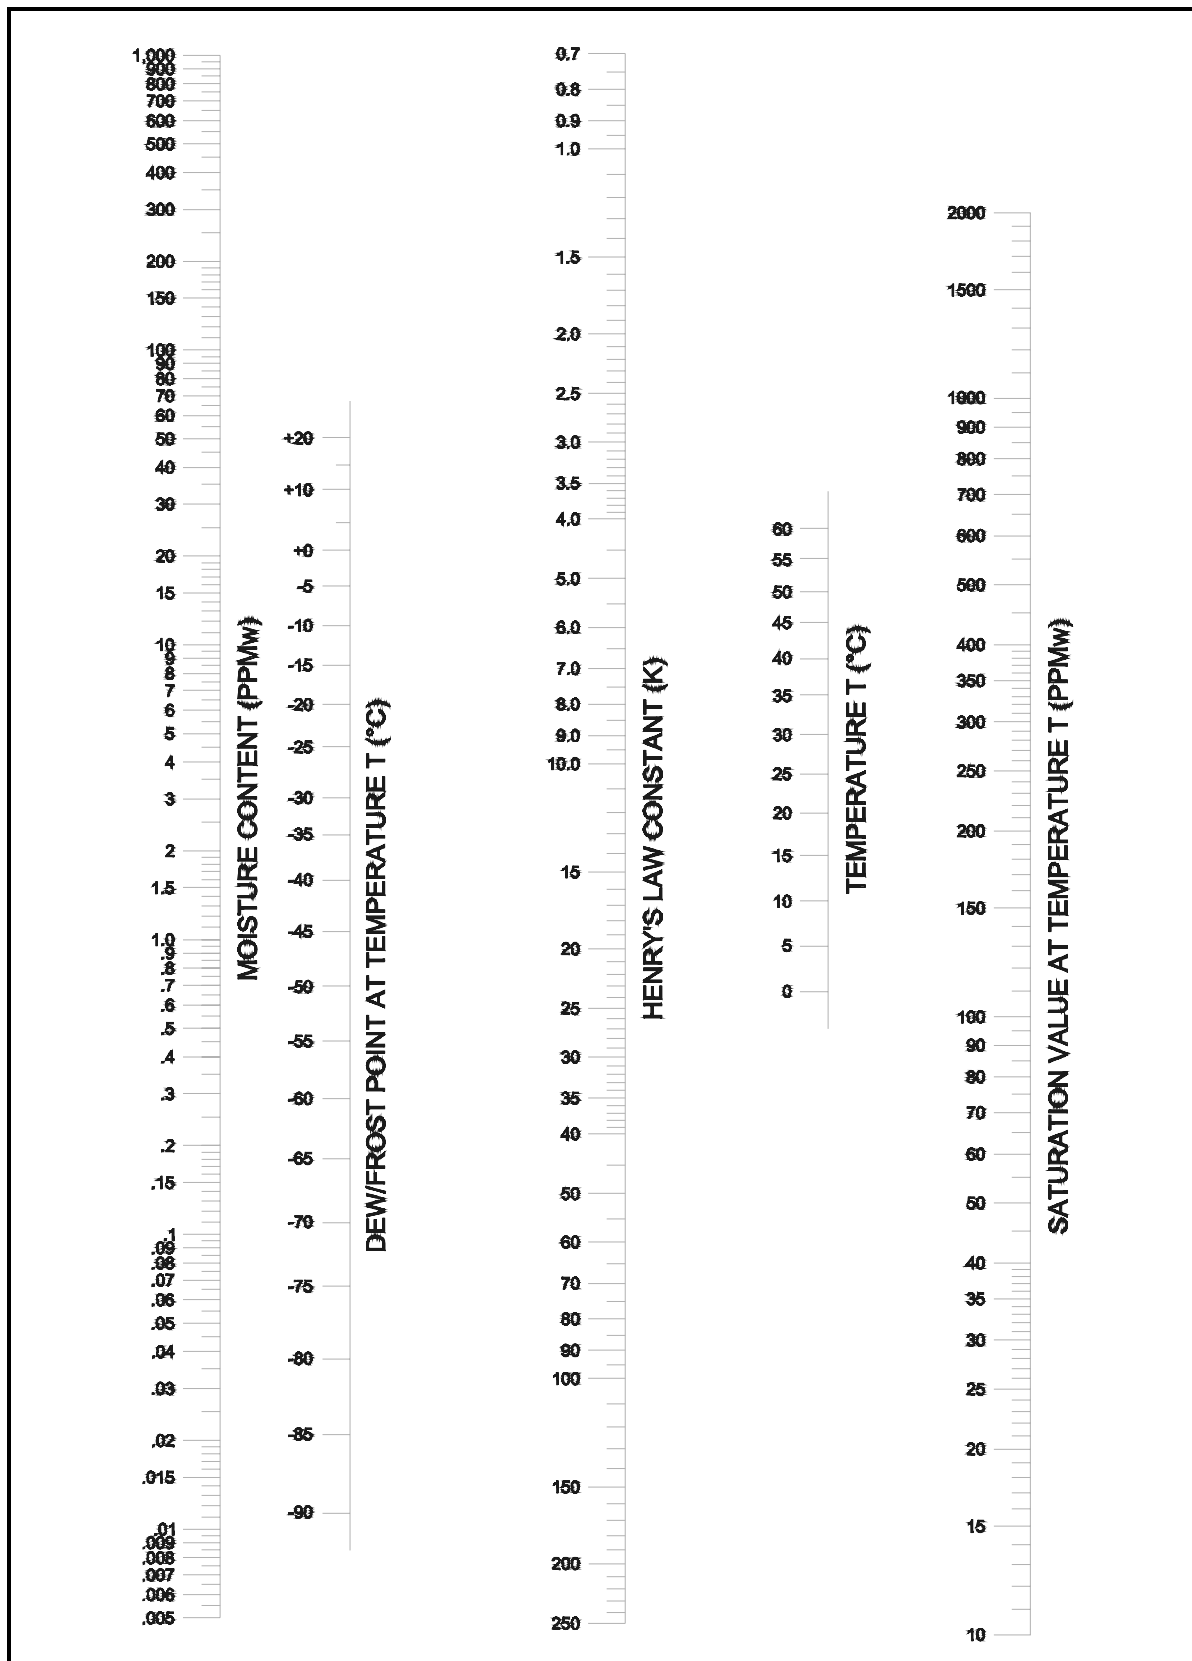

Figure A-2: Moisture Content Nomograph for Liquids
The nomograph for liquids in Figure A-2 on page A-32 can be used to determine the moisture content in an organic liquid, if the following values are known:
If the values of K and C_S are not known, the single-channel hygrometer can be used to determine these values. In fact, only one of the values is required to determine PPM_W from the nomograph in Figure A-2 on page A-32. To perform such an analysis, proceed as follows:
As mentioned earlier, saturated straight-chain hydrocarbons represent a special case, where the Henry's Law constant does not vary appreciably with temperature. In such cases, use the nomograph for liquids in Figure A-2 on page A-32 to complete the analysis.
- b. Using a straightedge on Figure A-2 on page A-32, connect the 870 PPM_W saturation concentration with the 30°C ambient temperature and read the Henry's Law Constant of **27.4** on the center scale.
- b. Using a straightedge on Figure A-2 on page A-32, connect the 480 PPM_W saturation concentration with the 50°C ambient temperature and read the Henry's Law Constant of **5.2** on the center scale.
- b. Using a straightedge on Figure A-2 on page A-32, connect the 101 PPM_W saturation concentration with the 20°C ambient temperature and read the Henry's Law Constant of **5.75** on the center scale.
- d. Using a straightedge on the nomograph in Figure A-2 on page A-32, connect the known 10 PPM_W moisture content with the measured dew point of -10°C, and read a K value of **5.1** on the center scale.